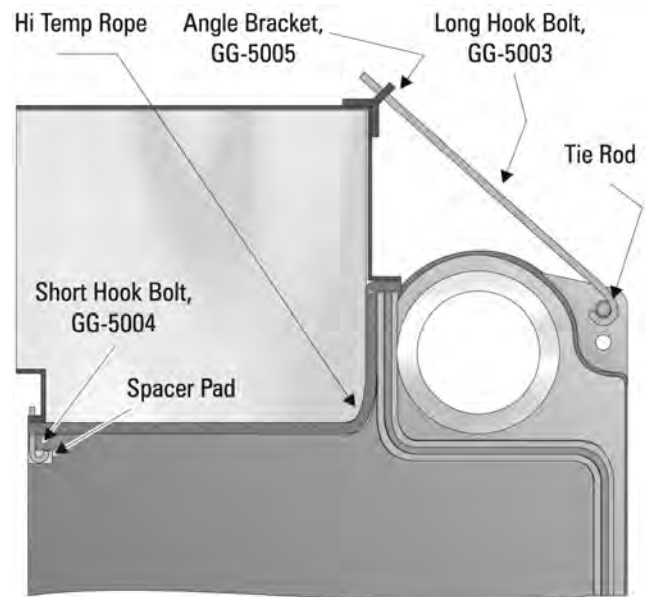

Figure 4.2: Installing Flue Collector Sections
4. Fasten an angle bracket, part number GG-5005 (Stock Code: GG5005), to the top of each Collector section with two #10 x 1/2" (13 mm) long sheet metal screws. See Figure 4.2.
5. Insert a Long Hook Bolt, part number GG-5003 (Stock Code: GG5003), through the angle bracket. Slip the hook end over the tie rod. Apply a 1/4"-20 hex nut on the end of the rod and snug against the bracket. See Figure 4.2. **Do not tighten yet.**
6. Insert a Short Hook Bolt, part number GG-5004 (Stock Code: GG5004), through the flange in the rear of the flue collector. Catch the hook around the spacer pads at the top of the boiler sections. Apply a 1/4"-20 hex nut on the Bolt and snug against the flange. See Figure 4.2. **Do not tighten yet.**